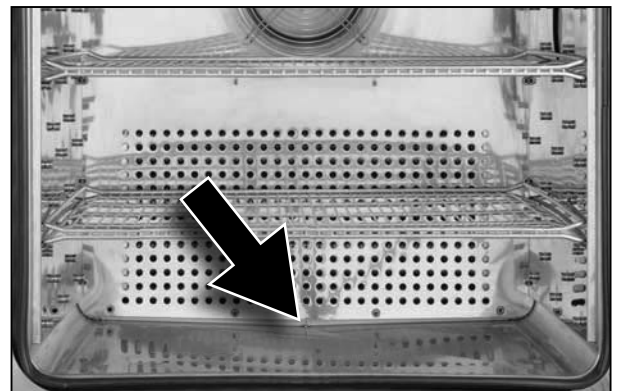

Fig. 37 Condensation water runoff tube
- ▶ Check that the condensation water runoff tube (Fig. 37) at the rear of the chamber interior is not blocked and clean if necessary.